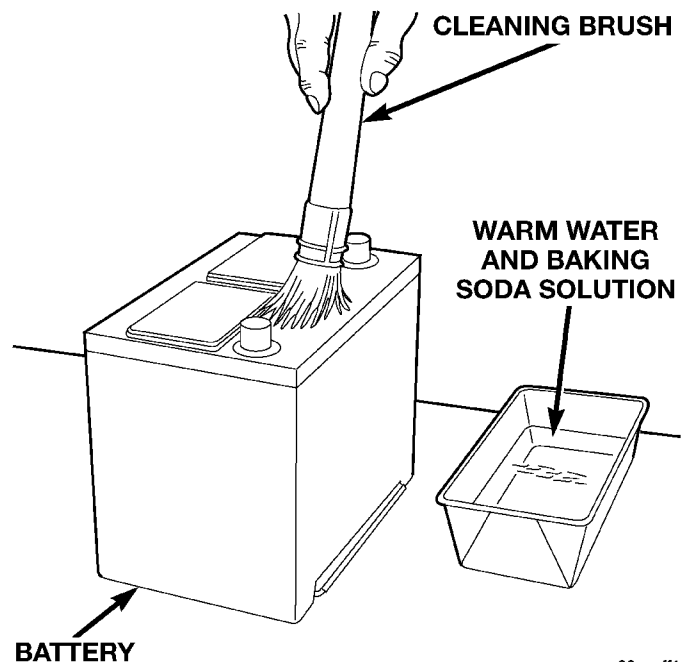

Fig. 19 Clean Battery - Typical
(9) If the battery is to be reinstalled, clean the outside of the battery case and the top cover with a sodium bicarbonate (baking soda) and warm water cleaning solution to remove any acid film (Fig. 19). Rinse the battery with clean water. Ensure that the cleaning solution does not enter the battery cells through the vent holes. If the battery is being replaced, see the Battery Ratings and Classifications chart in Specifications at the back of this group. Confirm that the replacement battery is the correct size and has the correct ratings for the vehicle.